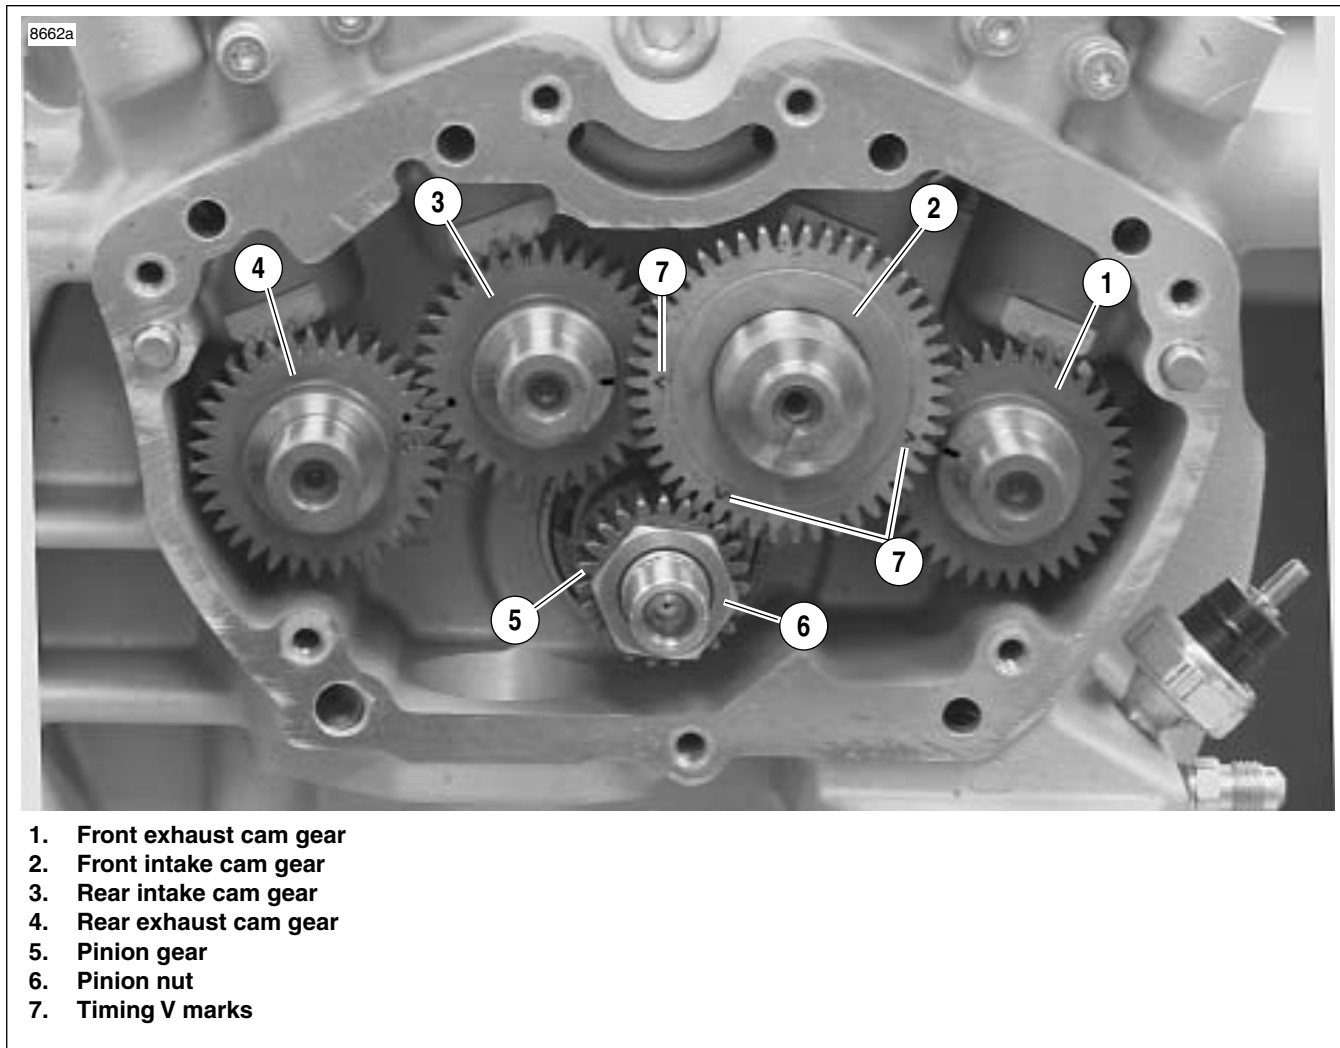

Figure 3-127. Cam and Pinion Gear Location and Timing Mark Indexing
8. See Figure 3-127. Remove cam gears (1, 2, 3 & 4).
See Figure 3-127. The XB9R uses V style timing marks on the front intake cam assembly (2). Please note the V marks (7).